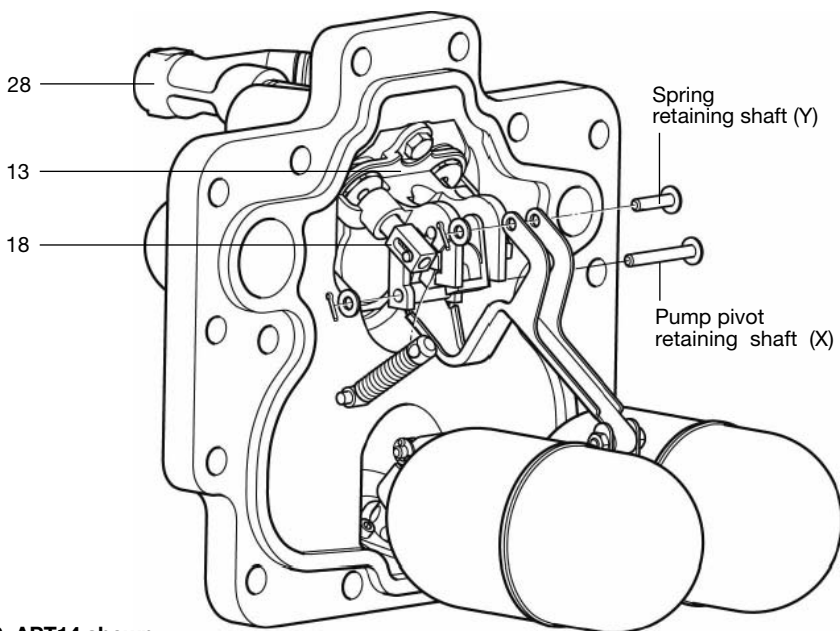
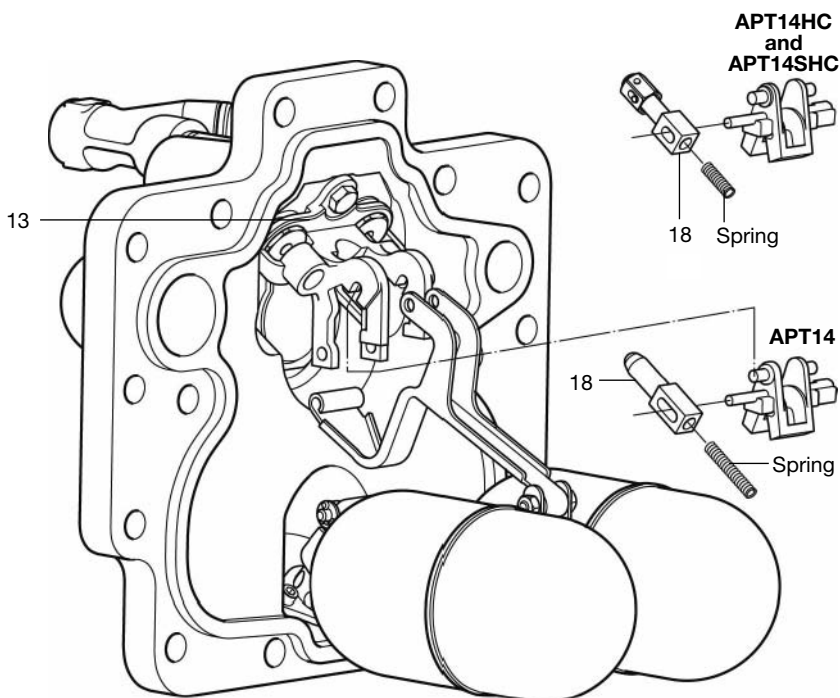

Fig. 20 APT14 shown
Fig. 21 APT14 shown
4. Remove split pins, washers, and shafts (X and Y) from the top spring pivot and pump pivot points (See Figure 20).
6. Draw the actuator arm with the exhaust valve downwards within its slots until it becomes free. It may be necessary to slide the exhaust valve (item 18) backwards against its internal spring to free it from the pump bracket guide (item 13), see Figure 21.
7. Remove the exhaust valve from the actuator arm (item 24, shown in Figure 20) being careful not to damage or lose the small exhaust valve compression spring.
9. **Fitting the new spring assembly and actuator arm is the opposite to removal.** Remember to compress the small spring within the exhaust valve (item 18) before refitting to the spigot of the new actuator arm.
10. Ensure the actuator is correctly aligned and located within the slots of the pump bracket (item 13) (see Figure 21).
12. Always use new split pins and washers when refitting the spring retaining shaft (Y) and pump pivot shaft (X).
15. Carefully reconnect the motive steam supply and the exhaust lines to the connections marked (S) and (E). The APT14, APT14HC or APT14SHC is now ready to recommission.
16. Make sure that the Spirax Sarco motive supply strainer (with 100 mesh screen) is reinstated to the motive supply connection (item 28, Figure 20).